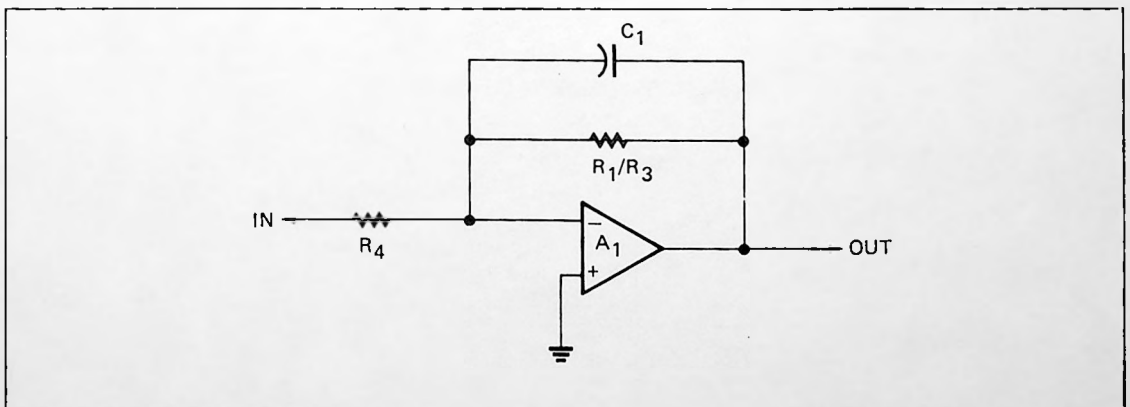

Figure A-2. Filter Section "B," First-Order Lowpass.
- b. First-order lowpass section "B" (Figure A-2).